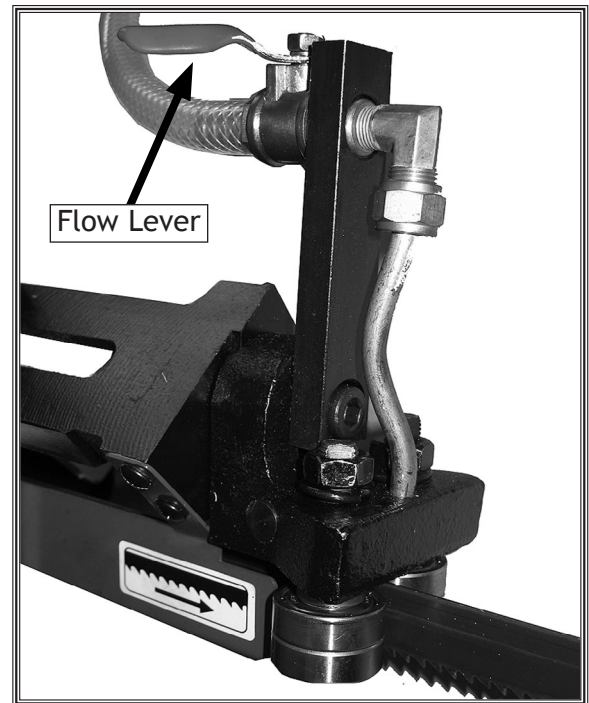

Figure 35. Lubricator flow control lever.
11. Adjust the flow lever so enough cutting fluid is pumped so that both sides of the blade are cooled, lubricated, and the chips are washed from the cut (see **Figure 35**).